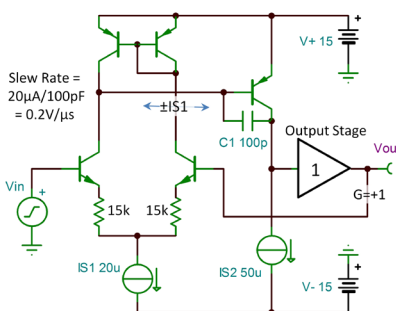

Figure 50: A large change in the input signal creates an output slewing condition.
If the input step is large enough, the accelerator is jammed to the floor. More input will not make the output move faster. (Figure 50 shows why in a simple op amp circuit.) With a constant input voltage to the closed-loop circuit, there is zero voltage between the op amp inputs. The input stage is balanced, and the current $IS1$ splits equally between the two input transistors. With a step-function change in V_{IN} greater than 350 mV for this circuit, all of the $IS1$ current is steered to one side of the input transistor pair. That current charges (or discharges) the Miller compensation capacitor, $C1$. The output slew rate (SR) is the rate at which $IS1/C1$, equal to $IS1/C1$.
Large-signal square waves with very fast edges tilt on the rising and falling edges according to the slew rate of the amplifier. The final portion of a rising or falling edge will have rounding as the amplifier reaches its small-signal range, as shown in Figure 50.